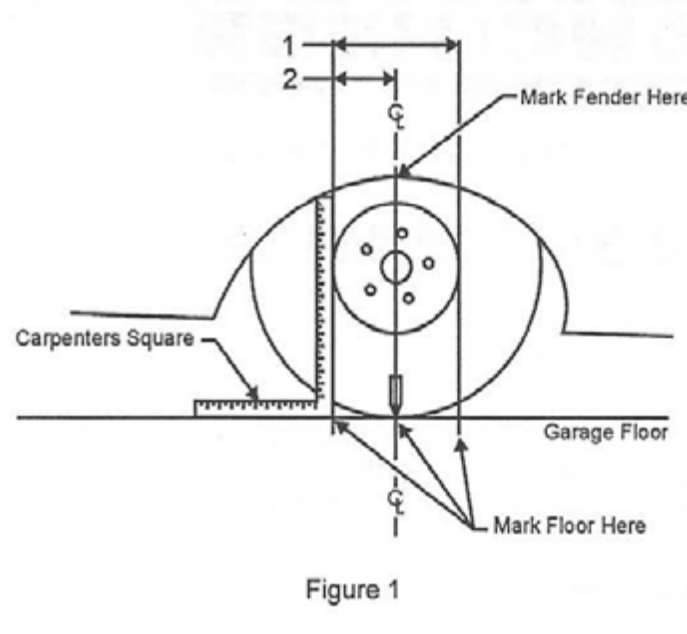

Figure 1
and plumb bob, mark the rear axle center line on the floor and the fenders for future reference (See Figure 1). Begin by placing the square at the front edge of the wheel (rim) and mark the floor (1). Next, place the square at the back edge of the wheel and mark the floor (1). Half the distance between the two is the centerline of the axle (2). Now, hang the plumb bob from the wheel well opening, lining it up with the centerline on the floor. Mark the wheel well opening at this point. Now, you have the centerline of the axle marked on both the floor and the car. Repeat for the other side.